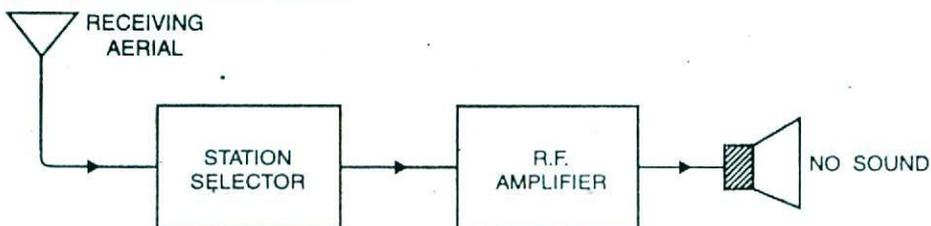

Fig. 18.12
*Necessity of demodulation.* It was noted previously that amplitude modulated wave consists of carrier and sideband frequencies. The audio signal is contained in the sideband frequencies which are radio frequencies. If the modulated wave after amplification is directly fed to the speaker as shown in Fig. 18.12, no sound will be heard. It is because diaphragm of the speaker is not at all able to respond to such high frequencies. Before the diaphragm is able to move in one direction, the rapid reversal of current tends to move it in the opposite direction *i.e.* diaphragm will not move at all. Consequently, no sound will be heard.